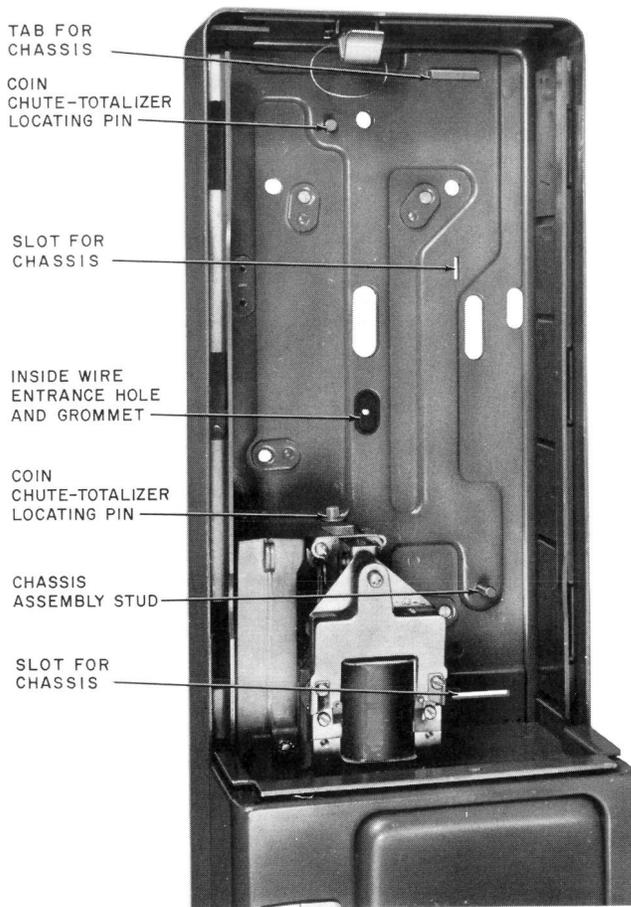

Fig. 4 — Upper Housing
- (1) Place assembly on pins located on rear of hopper assembly and back of housing (Fig. 4).
- (2) Place spring in groove on coin chute.
- (3) Lock spring in place by pushing chute locking lever down.
- (4) Reconnect totalizer plug P2 to J2.
- (1) Slide chassis under tab (Fig. 4).
- (2) Seat chassis tabs in slots.
- (3) Tighten chassis mounting captive screw.
- (4) Replace black and yellow leads on coin relay after threading through hole in hopper. Connect yellow lead to terminal G and black lead to terminal 3 of coin relay.